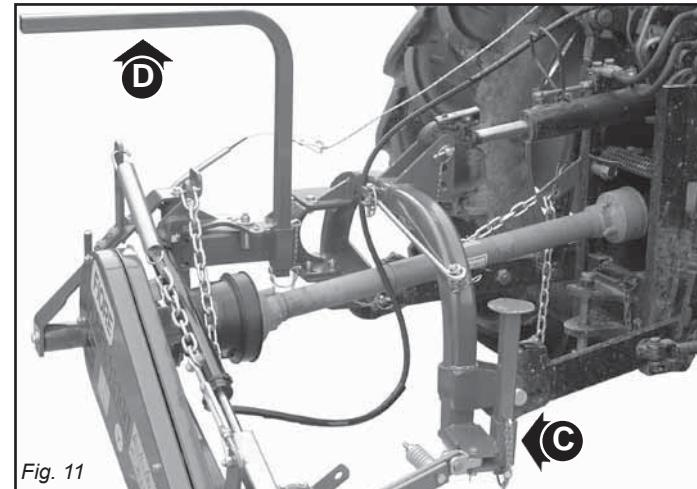

Fig. 11
- 48) Before operating the mowing machine, check that the support struts (C and D, Fig.11) have been removed from underneath the implement. Make sure that the mower has been correctly mounted and adjusted. Check that the machine is in perfect order and that all components subject to wear and deterioration are efficient.